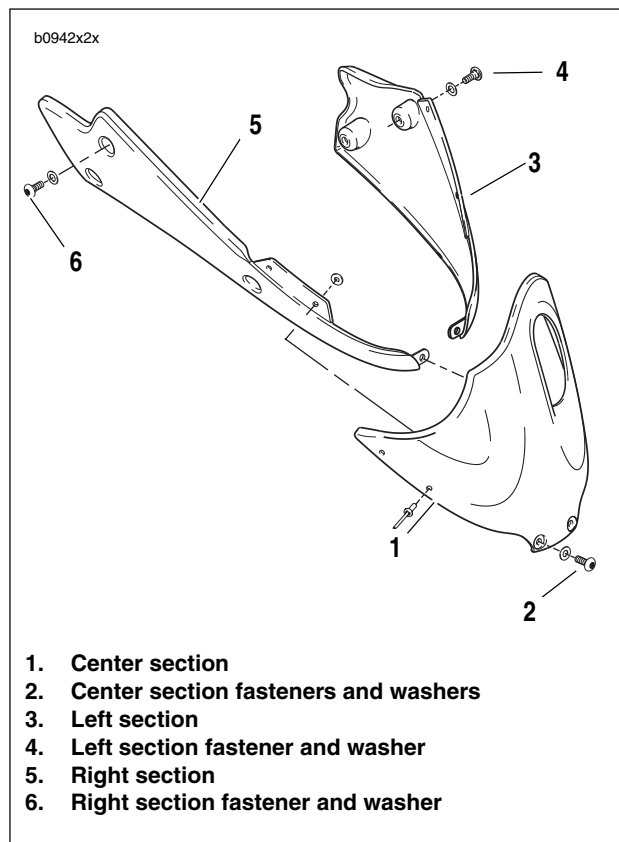

Figure 2-112. Chin Fairing Assembly
3. See Figure 2-112. Remove center section fasteners and washers (2).
4. Remove left section fasteners and washers (4).
5. Remove right section fasteners and washers (6).
1. See Figure 2-112. Position chin fairing (5) and install with right side fasteners and washers (6).
2. Align left section (3) and install with left side fasteners and washers (4).
4. Align center section (1) and install with center section fasteners and washers (2). Use LOCTITE 272 on all fasteners tightening to 36-48 **in-lbs** (4-5 Nm).